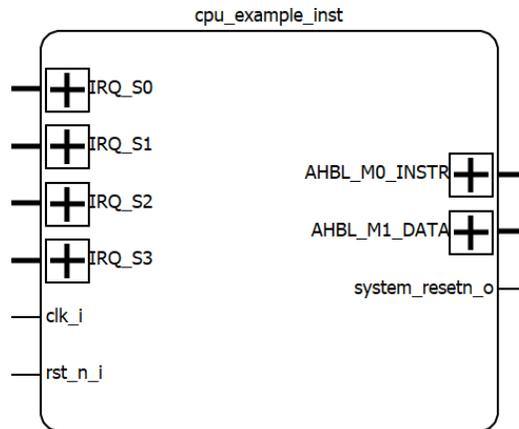

Figure 3.5. Generating CPU IP Instance
- The CPU IP instance is successfully generated, as shown in Figure 3.5.